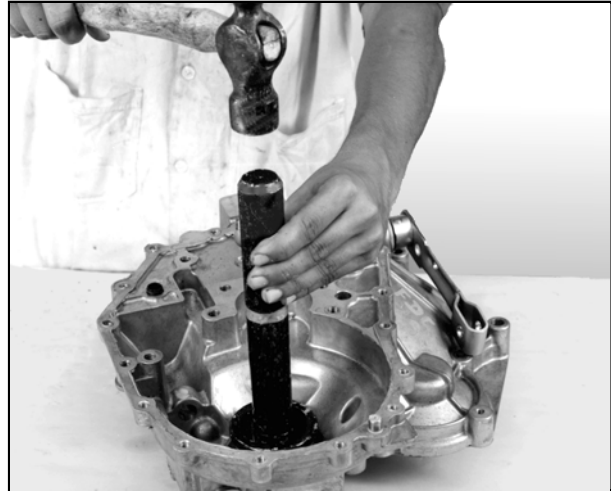

Fig. 29
7. Fix the outer race of differential side bearing in the housing (front half) by using drift part no. 2654 5890 3507. Fig. 29